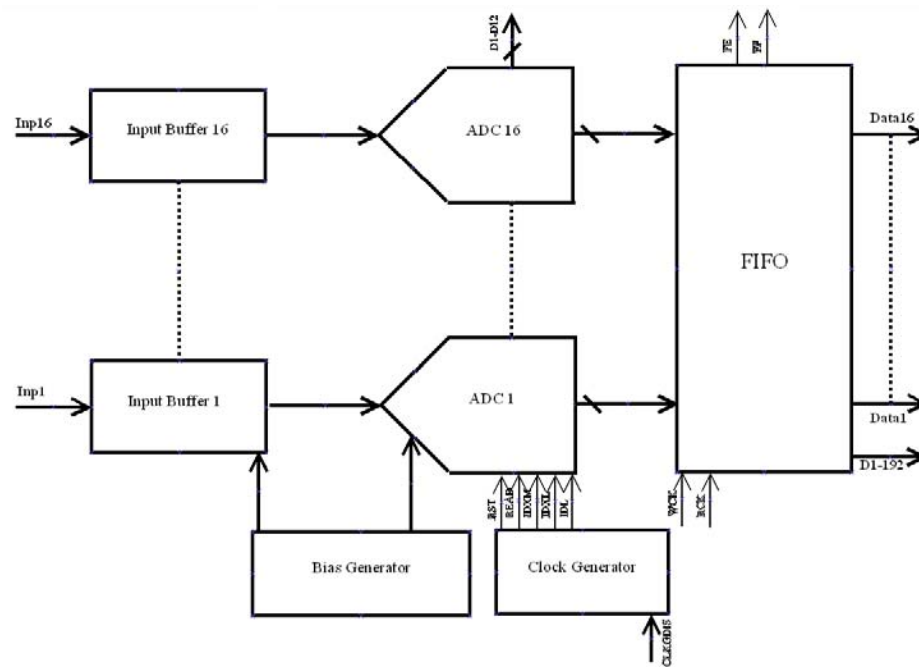
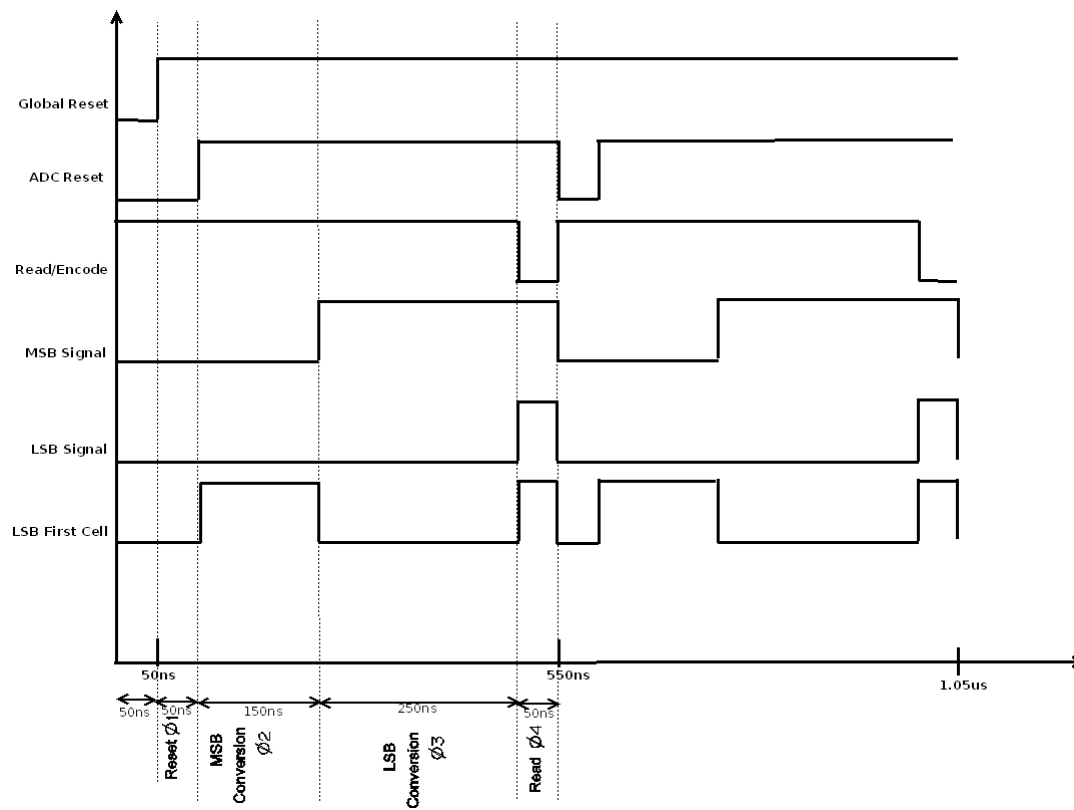
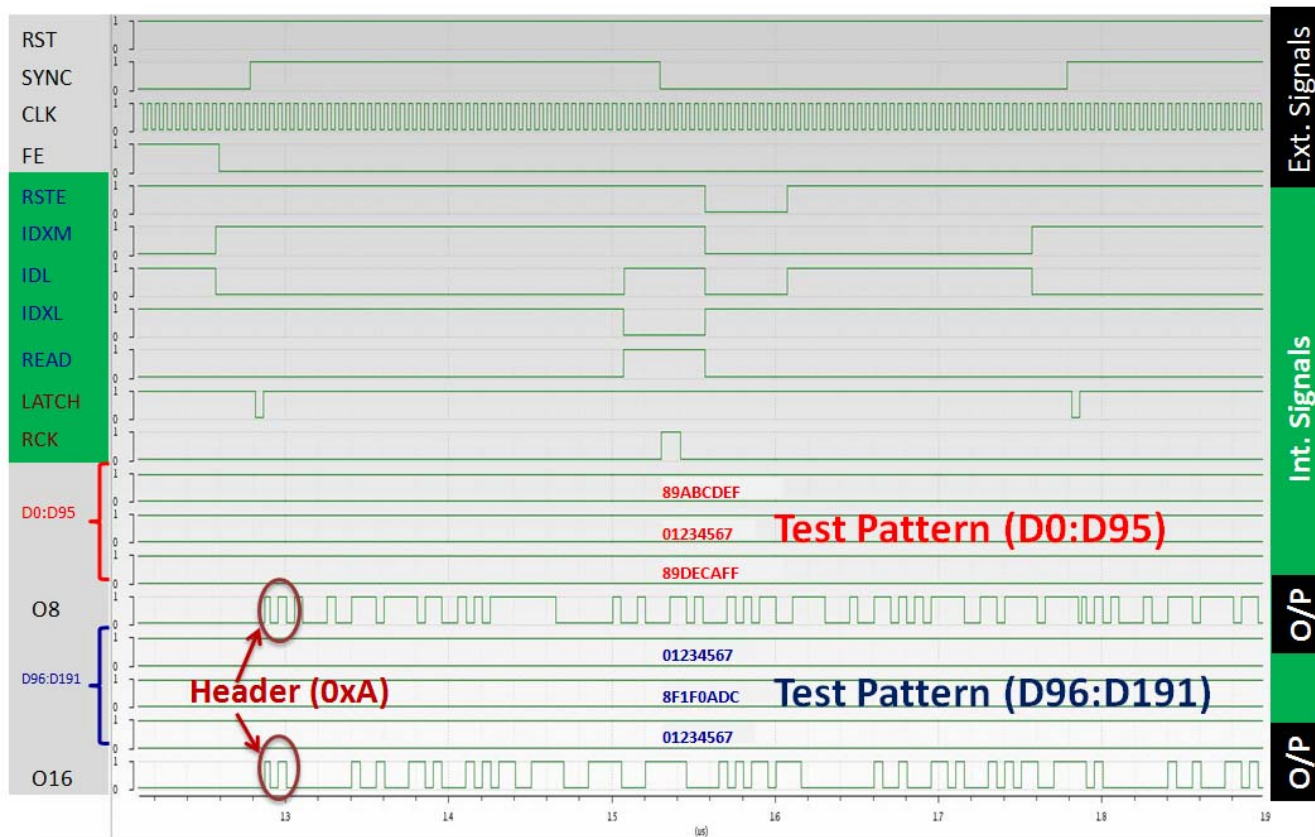

Figure 2. Functional Block Diagram
Figure 3. ADC Timing Diagram.
Figure 4. FIFO Timing Diagram
- Figure 2 shows the functional block diagram of the ASIC and Figure 3 shows the timing diagram of the ADC. Figure 4 shows the FIFO timing diagram. The MSB clock of the ADC is shared with the FIFO as the write clock.